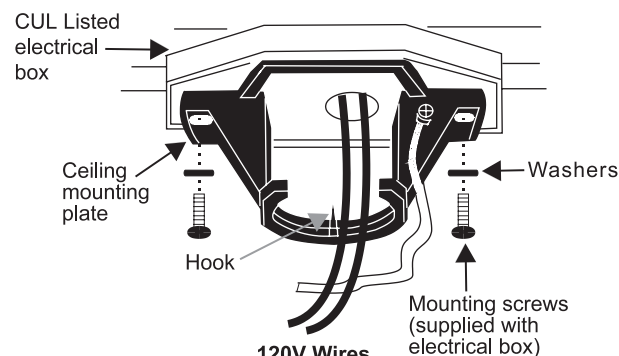

Figure 5
5. Fixer le verre dans le kit de lampe en installant 3 vis (voir la figure 5).
Step 1. Pass the 120-volt supply wires through the center hole in the ceiling hanger bracket as shown in Fig. 5.
2. Pass the 120-volt supply wires through the center hole in the ceiling hanger bracket as shown in Fig. 5.